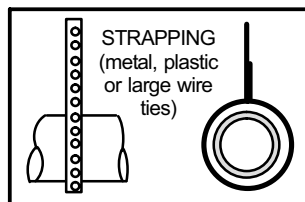

FIGURE 18
8. If intake and exhaust piping must be run up a side wall to position above snow accumulation or other obstructions, piping must be supported every 3 ft. (.9m) as shown in figure 18. Refer to figure 28 for proper piping method. In addition, wall termination kit must be extended for use in this application. See figure 31. When exhaust and intake piping must be run up an outside wall, the exhaust piping must be terminated with pipe sized per table 37. The intake piping may be equipped with a 90° elbow turndown. Using turndown will add 5 feet (1.5m) to the equivalent length of the pipe.